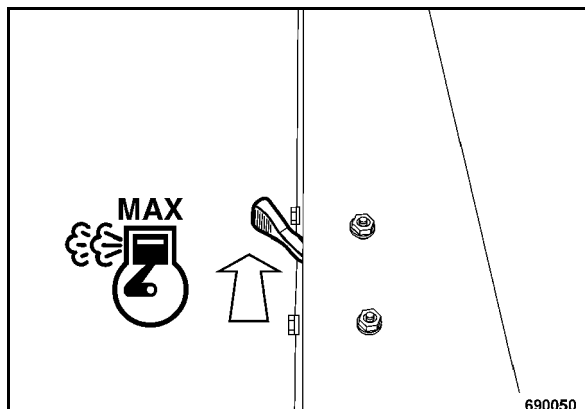

Fig. 28
- Set the throttle lever (Fig. 28) to position "MAX".